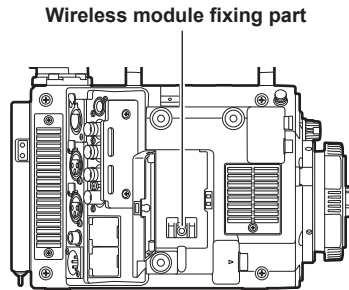

Fig. 2
- 2** Remove the screw from the wireless module fixing part. (Fig. 2)